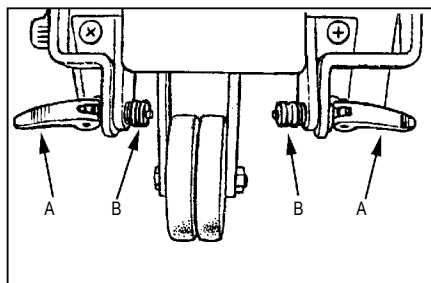

Figure 2
1. Open the quick release levers (2A) and unscrew the adjustment nuts (2B) to allow installation of the dolly. (See figure 2)